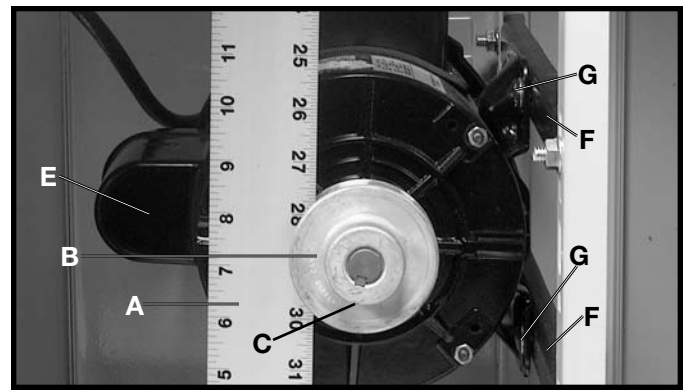

Fig. 6
Using a straight edge (A) Fig. 6, make certain the motor pulley (B) is aligned with the arbor pulley. If necessary, the motor pulley (B) can be adjusted on the motor shaft by loosening set screw (C) and moving the motor pulley (B) in or out as needed. The motor (E) can also be moved in or out along the mounting bars (F) by loosening the four mounting screws, two of which are shown at (G) and moving the motor (E).